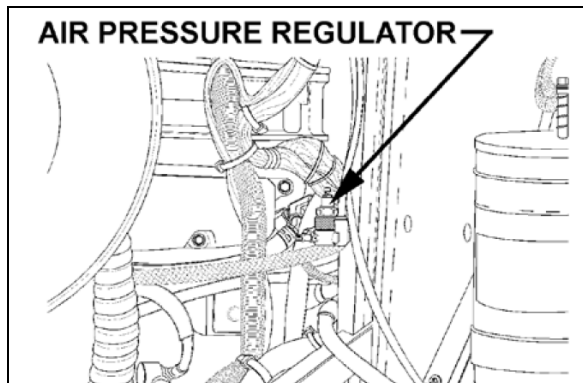

FIGURE 9: AIR PRESSURE REGULATOR (TYPICAL) 07037
18. Adjust the retarder pressure to 80 ± 3 psi with the air pressure regulator. For more information refer to Section 12, "BRAKE AND AIR SYSTEM", under heading "AIR PRESSURE REGULATOR". The air pressure regulator is located at back of engine compartment, on R.H. side (Fig. 9) or in the R.H. side rear service compartment.